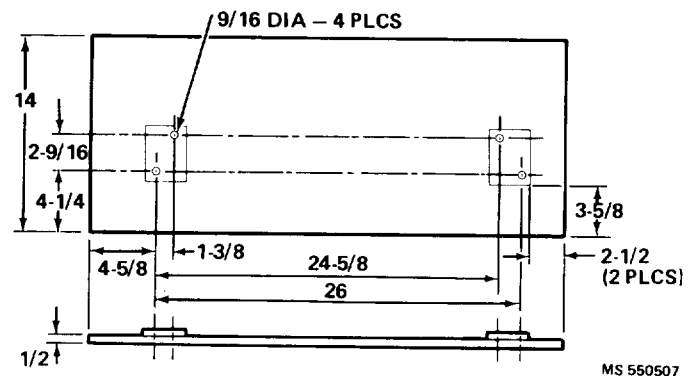

Figure C-1. HPU Packaging Mount Base
- c. Center 48 x 44-inch water-vaporproof barrier material over container base and cut four holes in barrier to match the four tiedown bolt holes (fig. C-1).
- (1) Make the base from 1/2-inch plywood (cleated on the bottom), and the sides, top, and ends from 5/16-inch plywood.
- (2) Make the pad from 1/2-inch plywood with corners and edges rounded (fig. C-1).
- (3) Cut inspection port (4 x 6 inches) in end panel to expose humidity indicator.